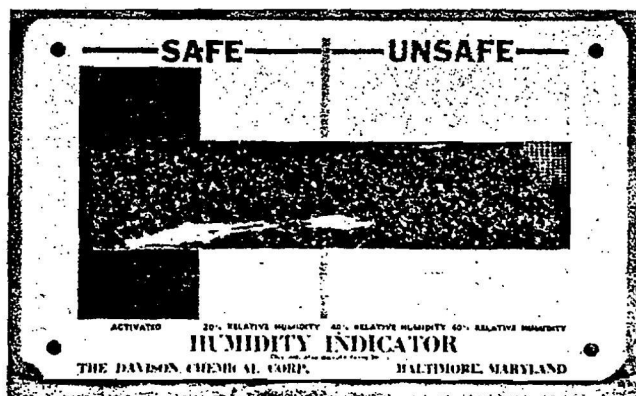

Figure 25—Humidity Indicator Chart
(1) Inspect the engine humidity indicator card once every two to four weeks. See figure 25. Climatic conditions may necessitate a more frequent check. If the indicator shows an unsafe color, replace it and the